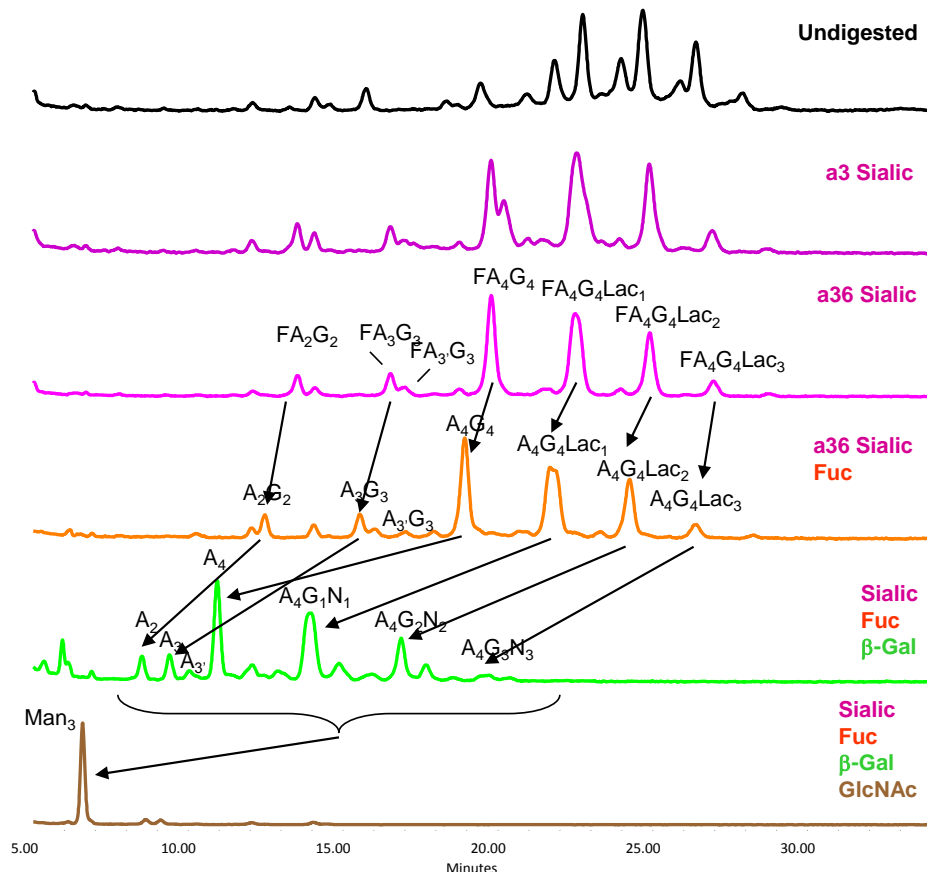

Figure 2: Exoglycosidase sequencing of EPO; 2AB labelled glycans run on a LudgerSep-N2 Column
- Analysis by HILIC- (U)HPLC provides GU values which can be matched to database and standard GU values to obtain preliminary structure assignments.
- Further analysis following exoglycosidase sequencing can be used to characterise the structures present (Figure 2). For example peaks that disappear (or reduce) following digestion with sialidase (Cat# **E-S001**) will have contained sialylated structures.